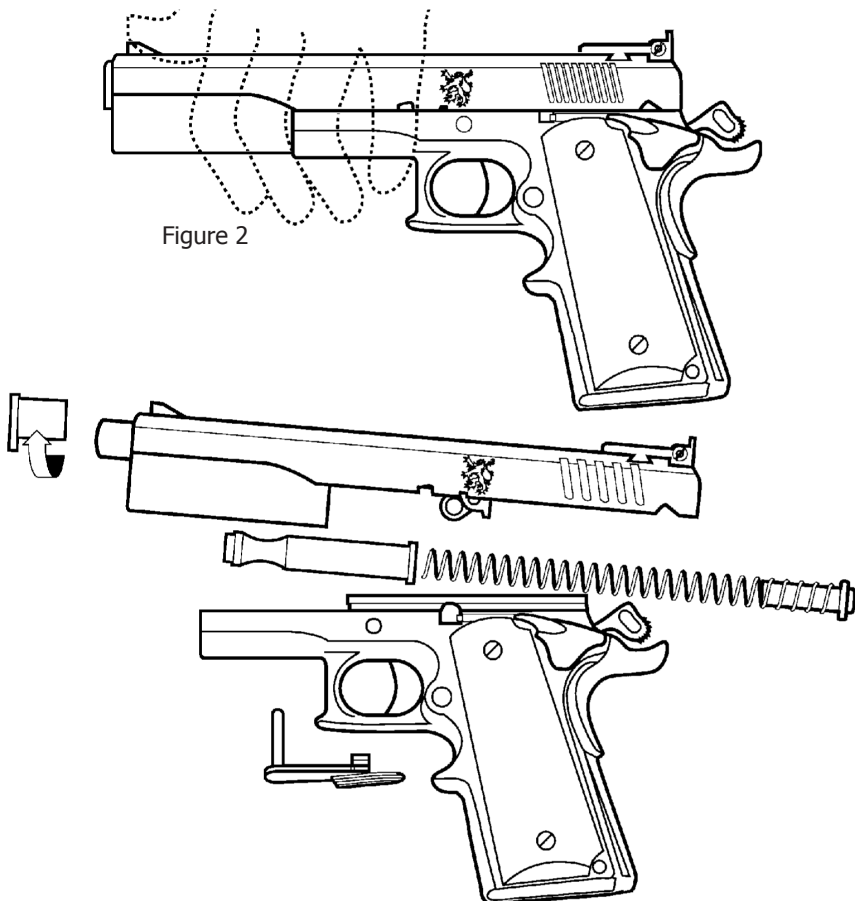

Figure 2
6. Grip the pistol slide and frame with the same hand as shown in figure 2. Gently and slowly move the slide forward maintaining your grip on the slide and its components (barrel and recoil spring assembly). **NOTE:** The recoil spring assembly will be under considerable spring tension.